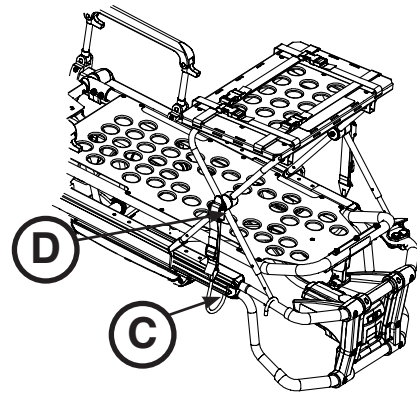

Figure 39
- Place the latch hook (C) under the cot litter frame or foot end fastener and push the tab (D) up until it locks into place with an audible click as shown in Figure 39. Repeat on the other side of the defibrillator platform.